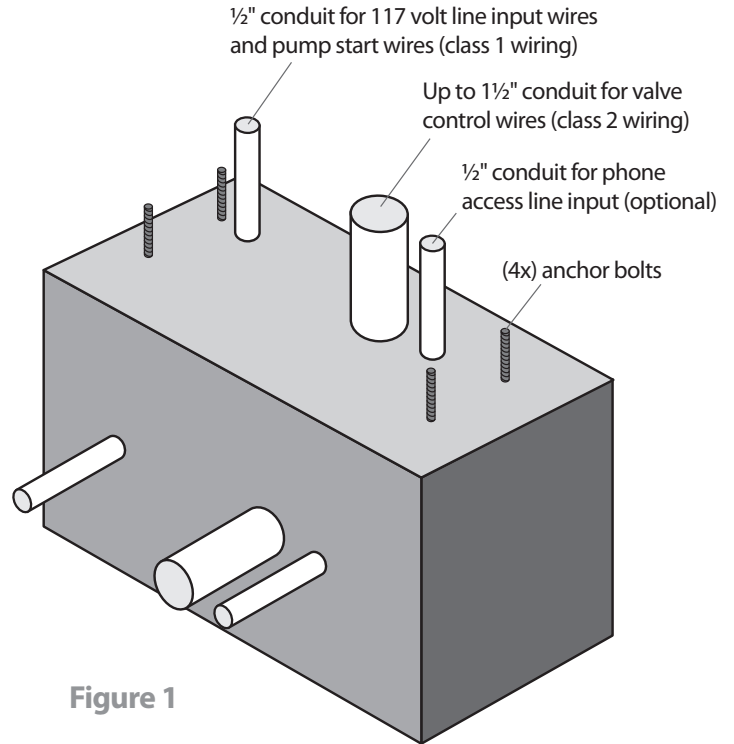

Figure 1
1. Prior to pouring the concrete for the base, position a sweep elbow of maximum 1.5" (3.81 cm) width and additional sweep elbows of maximum 1/2" (1.27 cm) width for power and/or modem connections if needed (see Figure 1).